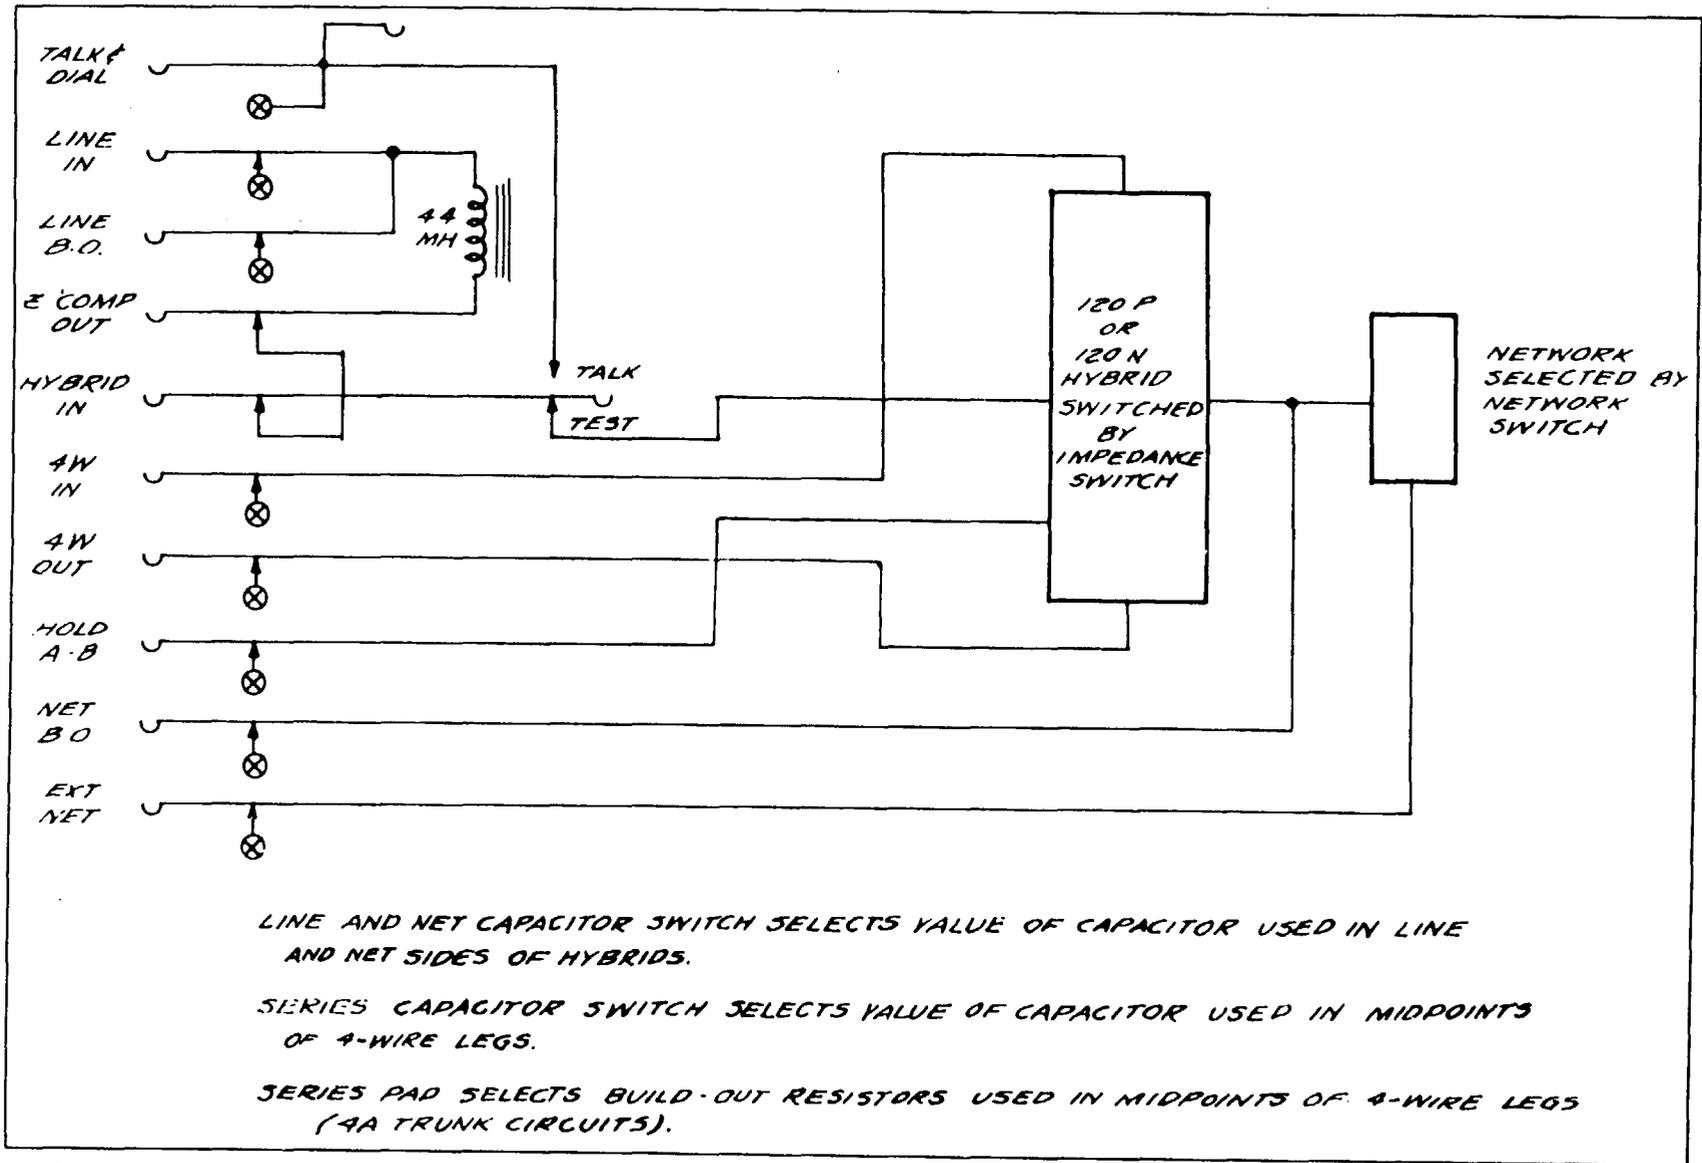

Figure 1 - Block Diagram for Portable Test Hybrid DE-90071-01
1.06 A block diagram sketch of the portable test hybrid set is shown in Figure 1.